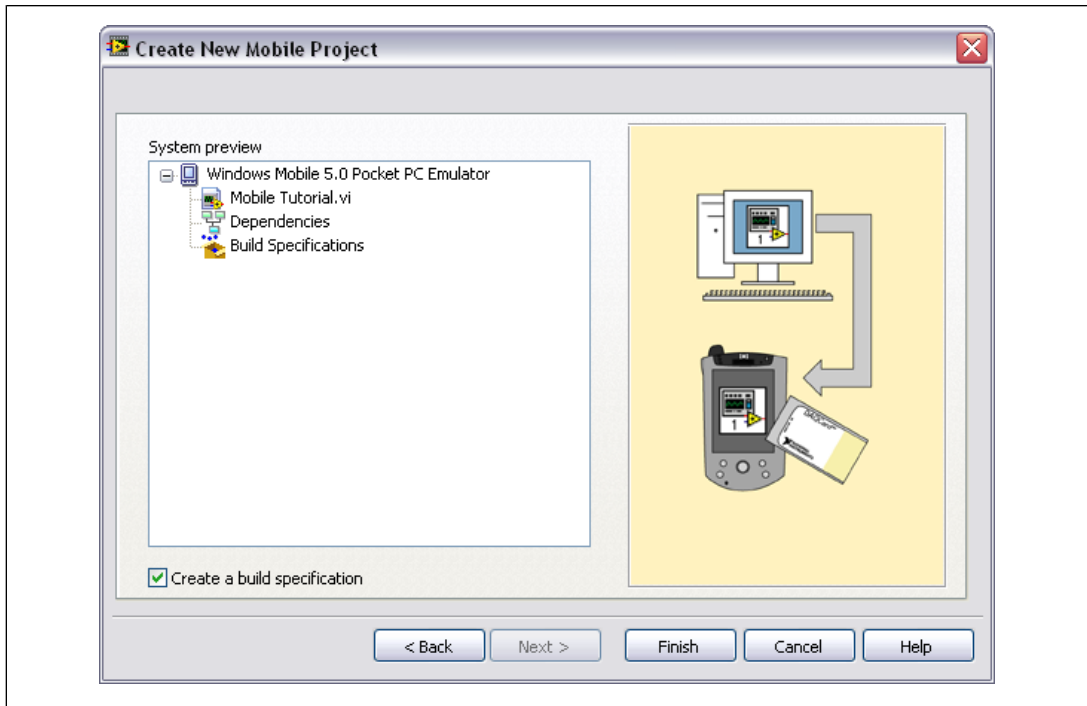

Figure 3. Previewing the Project
6. Click the **Finish** button. Because the **Create a build specification** checkbox contains a checkmark, as shown in Figure 3, the **Mobile Build Specification Properties** dialog box opens. Refer to the Creating the Build Specification section for more information about creating a build specification.